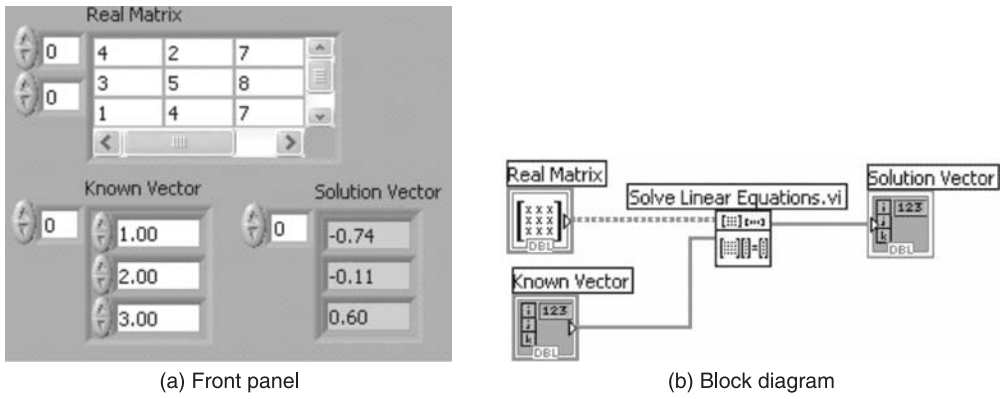

Figure P5.10
**Solution** The front panel and the block diagram to solve the problem are shown in Figures P5.10(a) and P5.10(b).